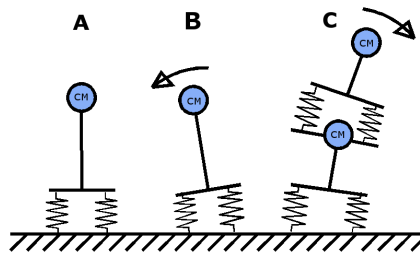

Figure 4: Toy model of tilt stability
Figure 4 shows a toy model of what's happening. Payloads are represented by a circle at their center-of-mass (CM) with soft springs supporting them by an inverted "T" (A). Like a pencil standing on its point, a payload supported by soft springs wants to fall over due to the force of gravity (B). If a system is unstable, like the pencil, there is no perfect balance where it will stand in place - it will always fall. As the isolators get spread apart, however, their restoring force overcomes this and the system becomes stable.
The situation with stacked isolators is shown in Figure 4(C). It is obvious that (C) will have much greater tilt stability issues than (A). There are only three basic ways to overcome this instability. These are to increase the footprint of the platform, lower the center of gravity of the payloads and increase the stiffness of the isolators. The first two can be very difficult to implement without affecting the economy